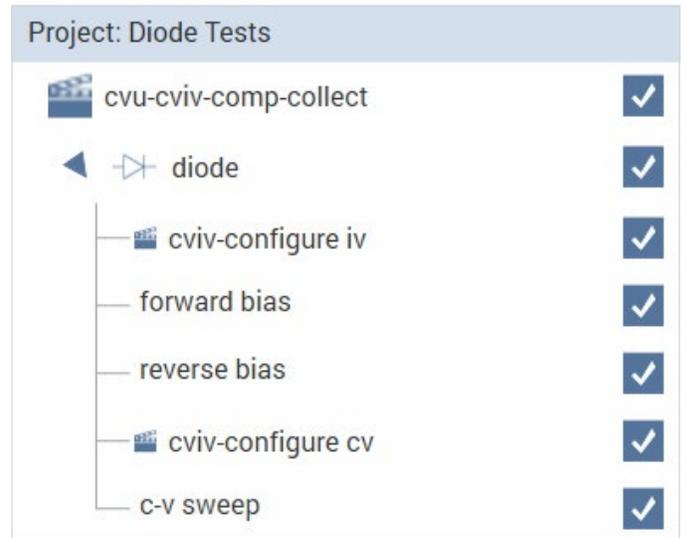

Figure 5. The project tree structure for a diode test that uses the 4200A-CVIV to switch between I-V and C-V measurements
**Figure 5** shows a screen capture of a project called *Diode Tests* that is used to make I-V and C-V measurements on a diode that is connected to the outputs of Channels 1 and 2. First, compensation is performed using the *cvu-cviv-comp-collect* Action. Then the *cviv-configure-iv* Action connects SMU1 and SMU2 to Channels 1 and 2 so that the forward and reverse I-V measurements can be made in the two tests that follow. When the *cviv-configure-cv* Action is executed, the SMUs are disconnected from the outputs and the CVU HI and LO terminals are connected to Channels 1 and 2. Finally, a C-V sweep is made on the diode.